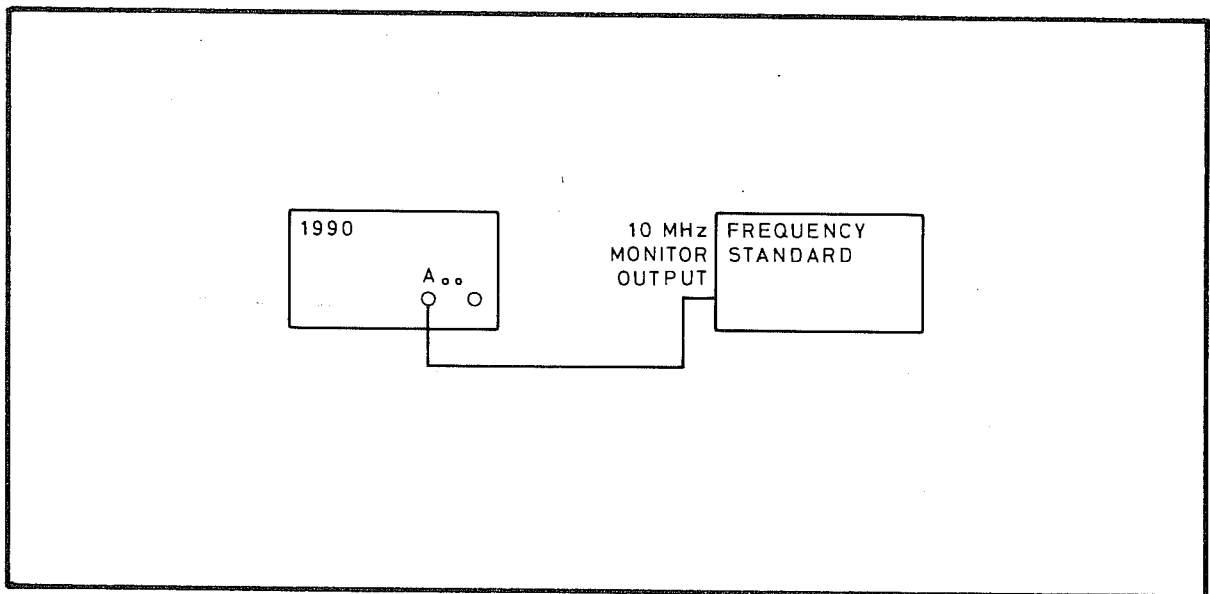

Fig 7.14 Connections for Internal Frequency Standard Adjustment :
- (1) If the instrument is fitted with the standard oscillator, remove the covers.
- (2) Switch on the 1990. Select **FREQ A** and verify that 000000 is displayed. Press the **RESOLUTION** ↑ key until 0000000 is displayed.
- (3) Connect the test equipment as shown in Fig 7.14.